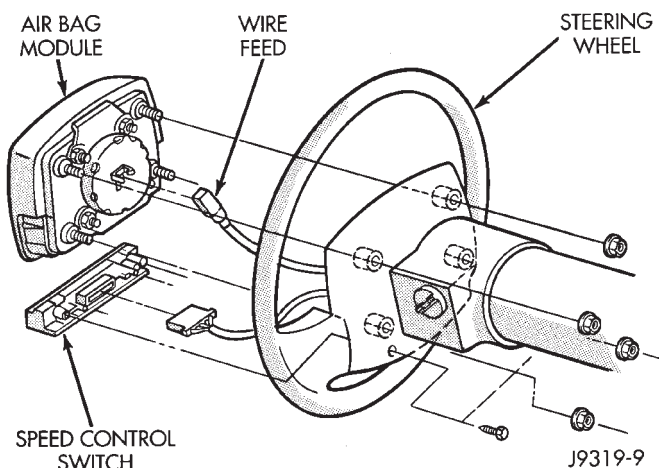

Fig. 1 Speed Control Switch Removal
- (1) Disconnect negative cable from the battery.
- (2) Remove 2 screws from back side of steering wheel (Fig. 1).
- (3) Rock switch away from horn pad while lifting switch out of steering wheel.
- (4) Disconnect 4-way electrical connector from clockspring.